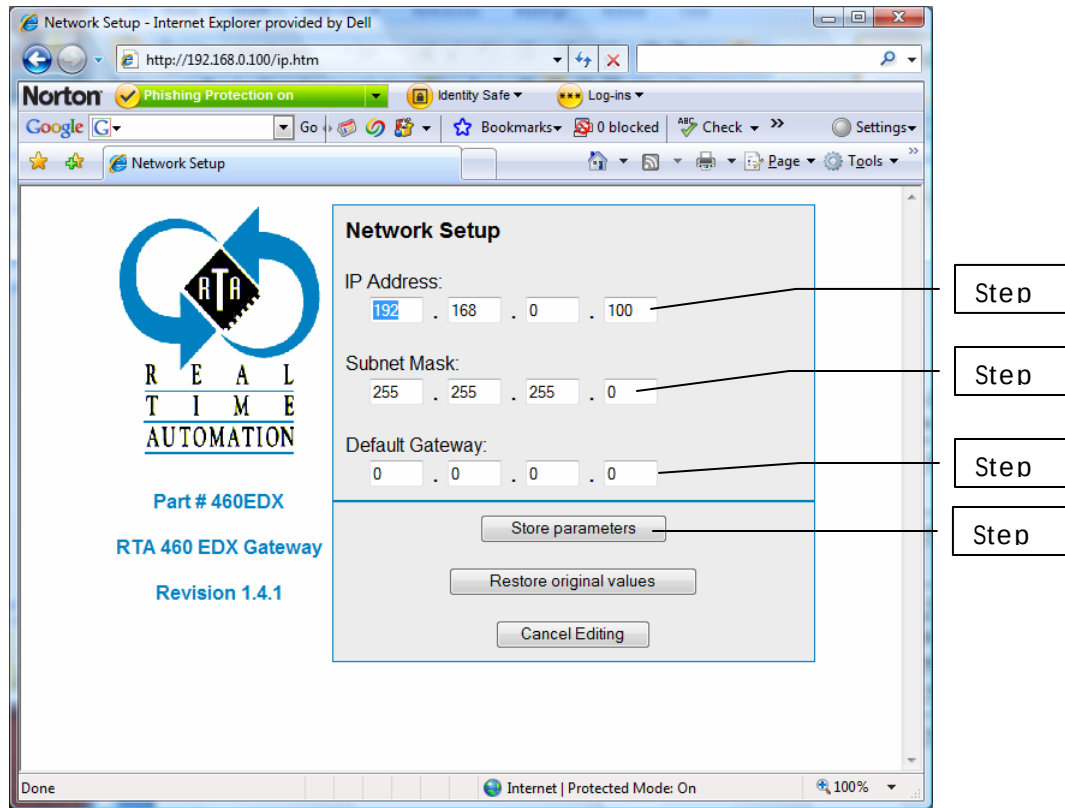

Figure 2-66 Network Setup screen
1. Click on Edit next to the **460 Network Settings** section of the table. The Network Setup screen displays. See Figure 2-66.